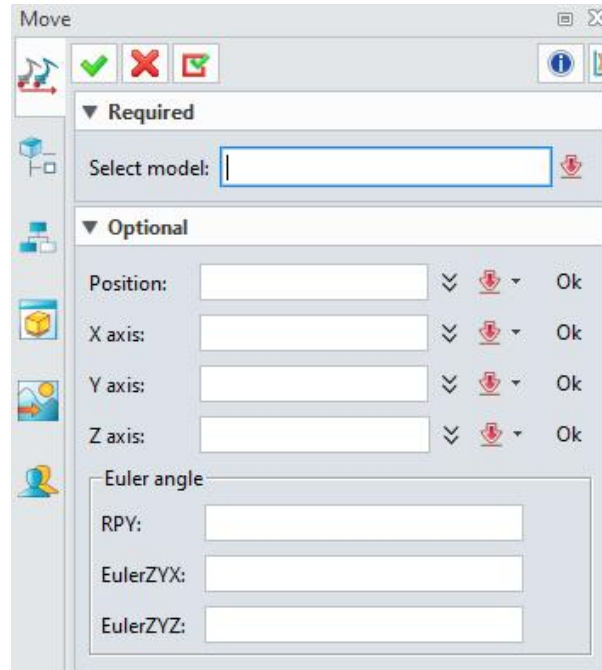

Figure 3-46: Euler angle
- Euler angle is a set of three independent angular parameters used to uniquely determine the position of a fixed point rotating rigid body.(Figure 3-46)